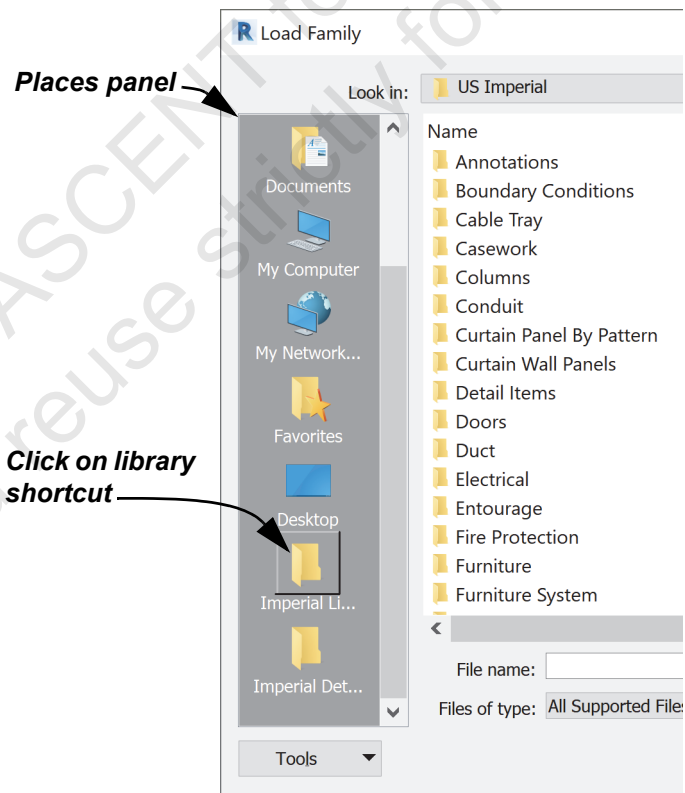

Figure 1–8
- In the Load Family dialog box, locate the folder that contains the family or families you want to load, as shown in Figure 1–8.